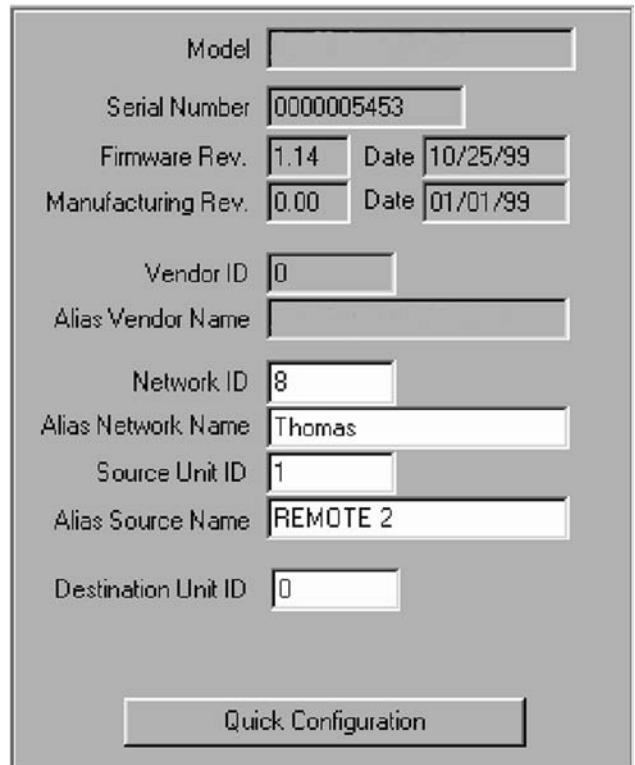

Fig. 16 — Quick Configuration Window
1. Select Change Password from the File menu. See Fig. 16.
Assigning IDs — Using a combination of firmware and software assigned IDs, the security of the data is ensured. Some IDs can be modified and others cannot depending on your privileges. The IDs are all accessed either via Quick Configuration or the General Tab. See Fig. 16 and Table 5.